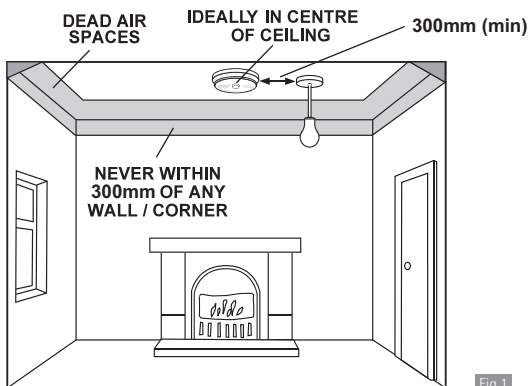

Fig.1
- At least 300mm away from walls. (see Figure 1).